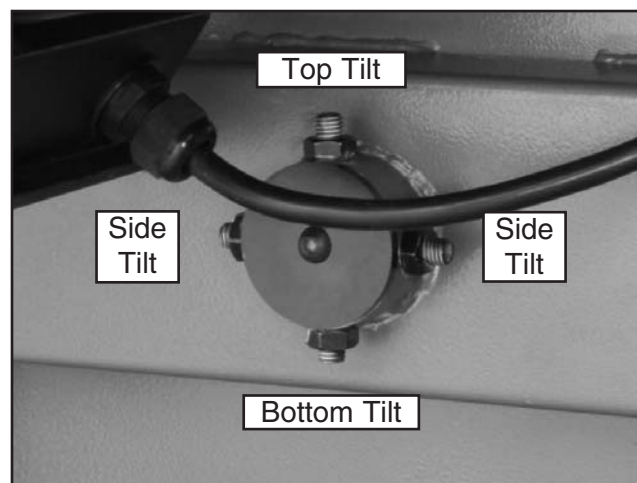

Figure 54. Lower wheel adjustment control.
7. If the wheels will go parallel but not coplanar, then move the lower wheel at the adjustment hub (**Figure 54**) as necessary.